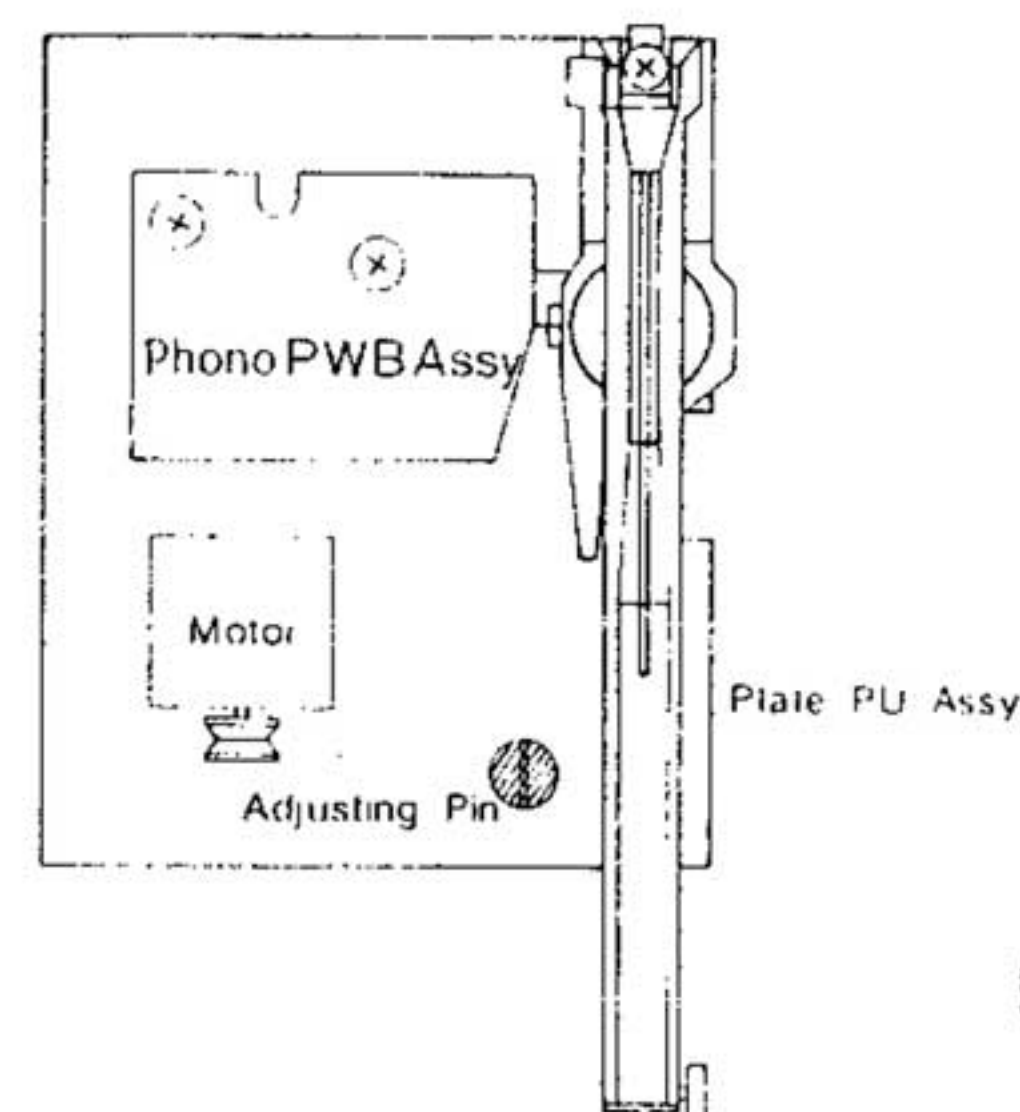

Figure 27
- Remove the case top according to DISASSEMBLY INSTRUCTIONS (B) (page 3).
- Turn the adjusting pin described in Fig. 27 so that the stylus set-down position will be counted between 15 and 17 points.
- 針先降下位置が15~17カウントになるように調整ピンで調整する。(図27)